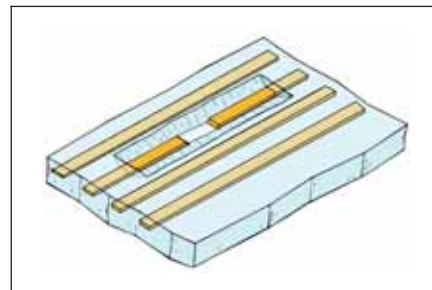

Figure 5 Beveling.
- Grasp the damaged conductor with tweezers and remove. (See Figure 5.)